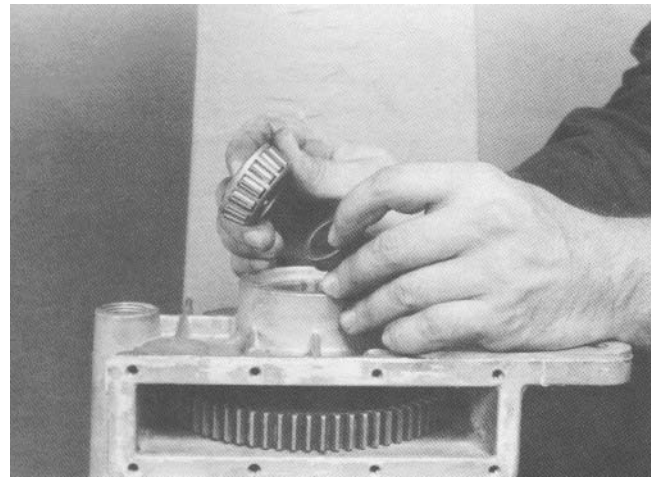

Figure 31
8. Install the outer pinion spacer with the chamfer towards the pinion splines and position the new outer bearing cone on the pinion shaft (Fig. 31).